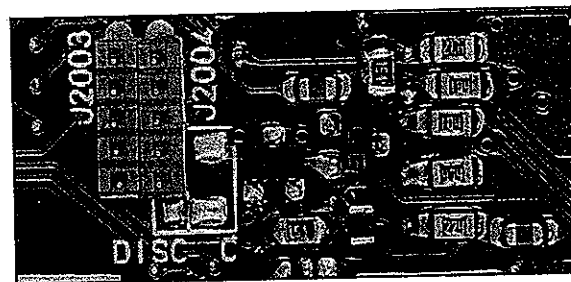

Fig. 2 RX Audio Component Location
- Locate the unused pad beneath connector J2004, labeled **C** (Fig. 2). Install a 0- $\Omega$  chip resistor\* across at this location, and a wire to the pad just to the left labeled **DISC**. This makes the connection for de-emphasized discriminator audio output for decoding.